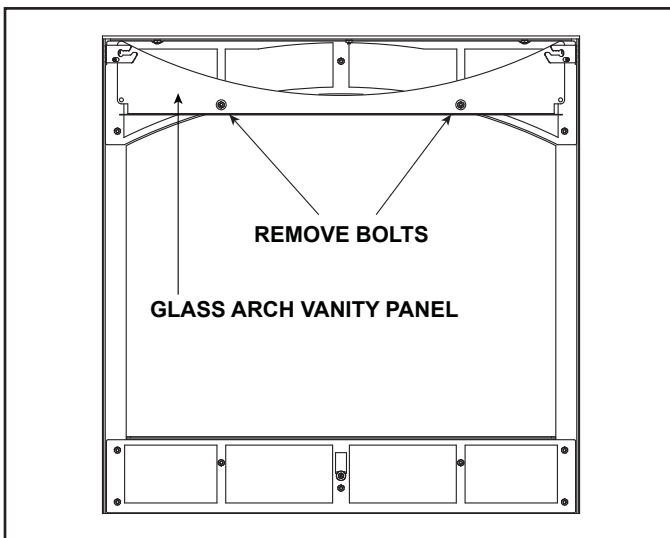

Figure 4. Location of Screws on Door Hanging Bracket
**TRES ONLY:** Remove glass arch vanity panel by removing 2 bolts. See Figure 4.